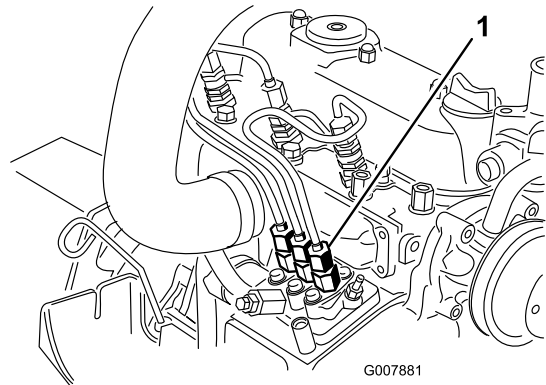

Figure 39
1. Place a rag under the pipe connection coming from the injection pump to the No. 1 injector nozzle as illustrated in Figure 39.